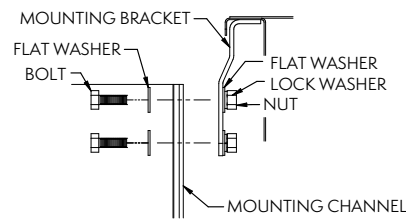

Figure 21 – Mounting Channel Installation
2. Use 3/8" (10 mm) flat washers, lock washers and nuts to secure the mounting channel to the bracket, as shown in Figure 21.